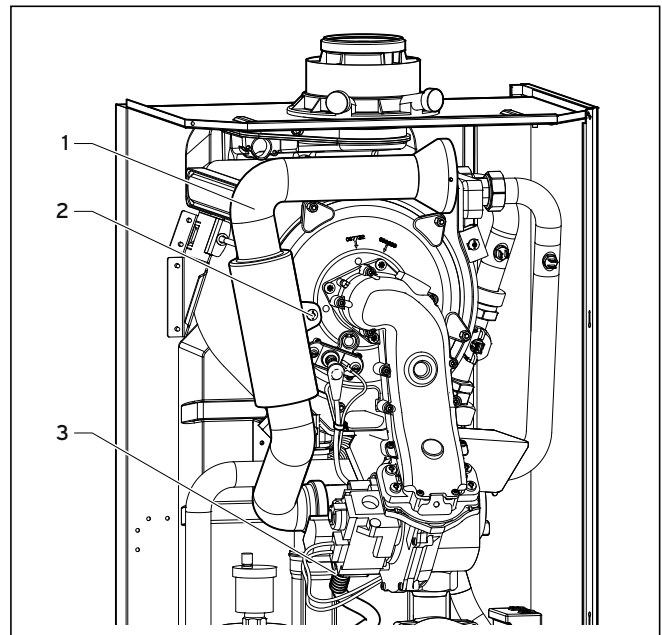

Fig. 8.2 Removing air intake pipe
- Insert the air intake pipe onto the intake stubs and fasten the pipe with the retaining screw (2, Fig. 8.2).